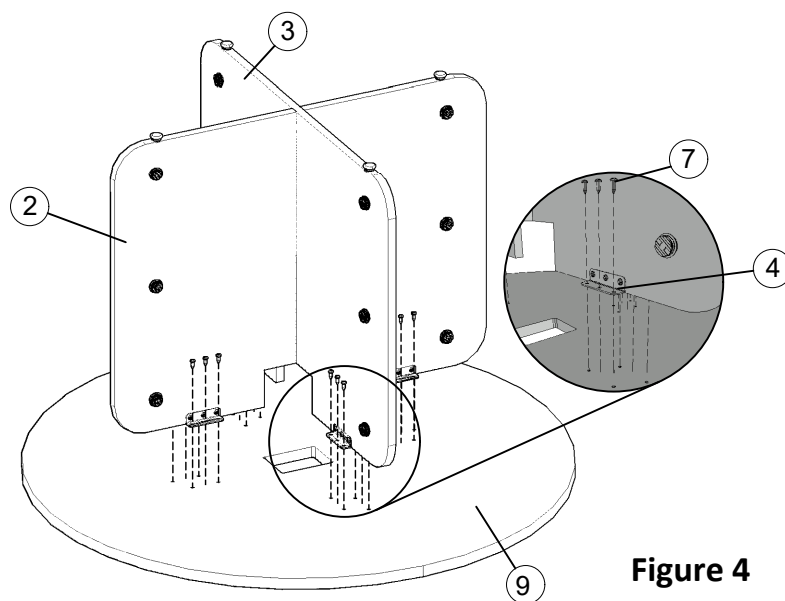

Figure 4
4. Align the holes of the 90° Brackets with the pre-drilled holes on the underside of the Tabletop. Secure the Laminate Base 1 and 2 using #10 x 11/16" Pan Head, Square Drive Screws, as illustrated in Figure 4.